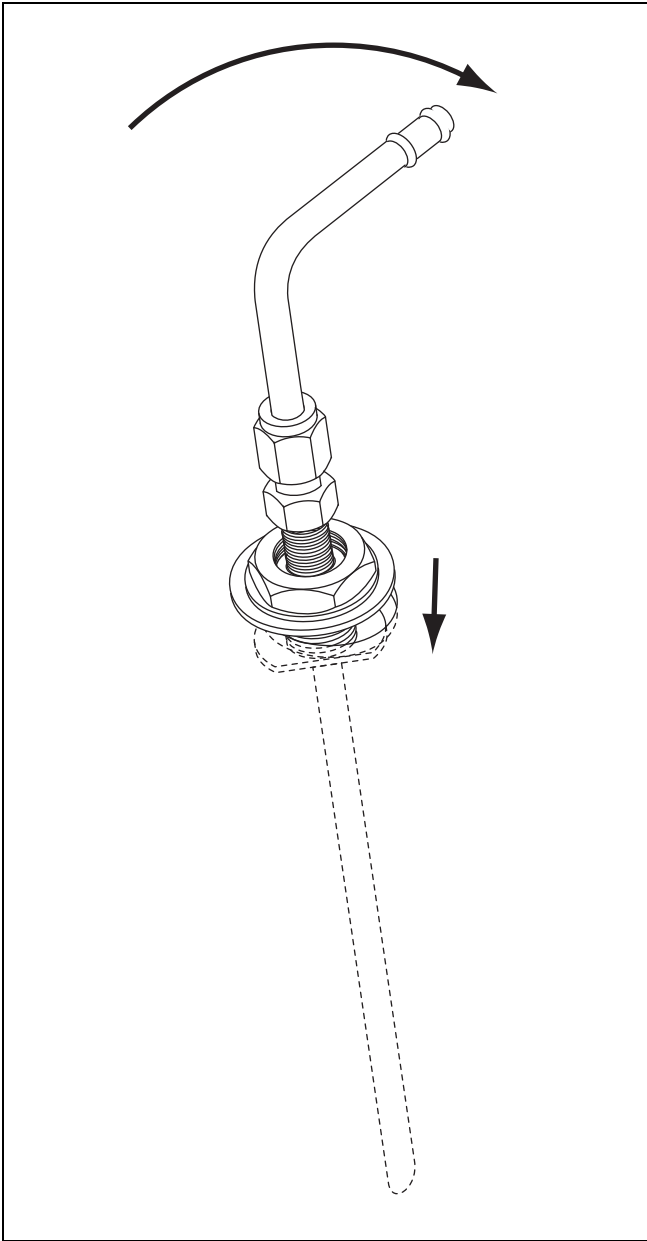

Figure 19: Standpipe installation - illustration 2
7. bring standpipe up to horizontal and insert opposite shoulder under the tank hole. See Figure 19.